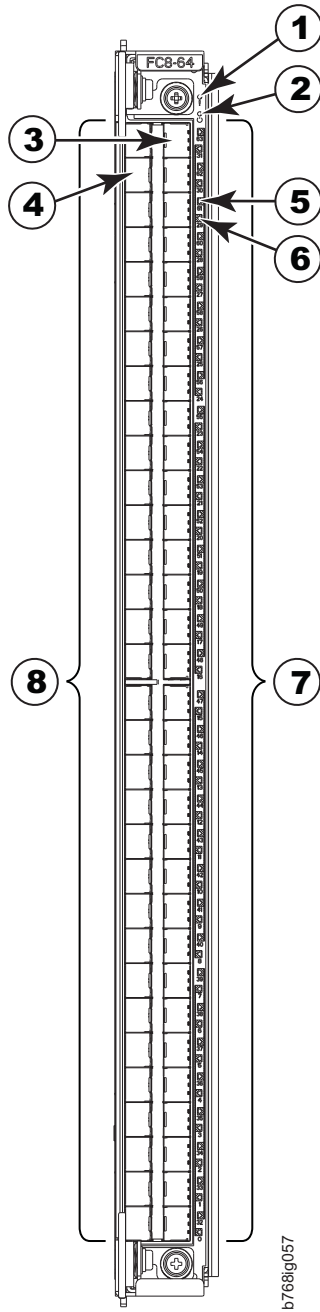

Figure 52. FC8-64 port blade
- Figure 52 on page 166 shows an FC8-64 port blade